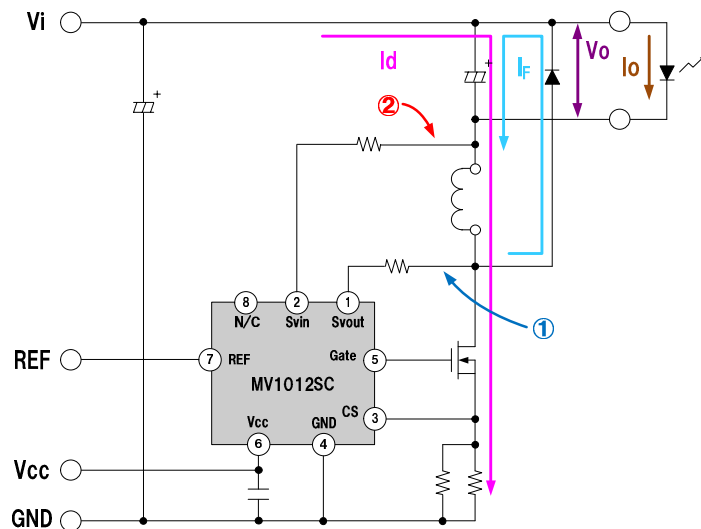
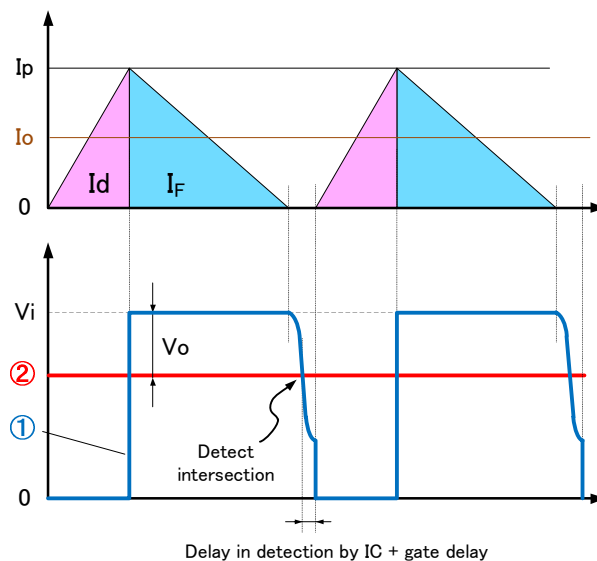

Figure 1 CRM step-down chopper circuit
Figure 2 MOSFET and diode current waveforms of the CRM step-down chopper and voltage waveforms on both ends of the choke
The MV1012SC is a critical conduction mode (CRM) step-down chopper control IC. Figure 1 shows the circuit configuration. Figure 2 shows the waveforms of currents flowing to the MOSFET and the diode, represented by I_D and I_F , respectively. In a general CRM step-down chopper circuit, the MOSFET is turned on after the I_F becomes zero, leaving little recovery current for the diode and lower losses and noises than a PWM circuit. Meanwhile, disadvantageously, the oscillation frequency changes dramatically as the output current (LED current) changes, resulting in poorer dimming characteristics and efficiency.
The MV1012SC detects I_D , converted to a voltage, with the current detection pin (CS pin). When it reaches the CS reference voltage, the MV1012SC turns the MOSFET off (peak current detection). The IC performs CRM control in this way: When the diode current I_F becomes zero, the S_{vout} voltage falls below the S_{vin} voltage, so the IC detects this state (zero current detection) and turns the MOSFET on. The voltages on both ends of the choke (① and ② in Figure 2) are divided with resistors and input to the S_{vin} pin and the S_{vout} pin to achieve CRM operations without auxiliary winding. Additionally, the off-time modulation prevents the frequency increasing during dimming and achieves constant high efficiency and dimming characteristics during deep dimming. (See Section 5 [Dimming characteristics] on page 19.)
Figure 3 shows an example of a starting operation in the $V_{cc} \rightarrow$ REF sequence, using the circuit configuration shown in Figure 1.